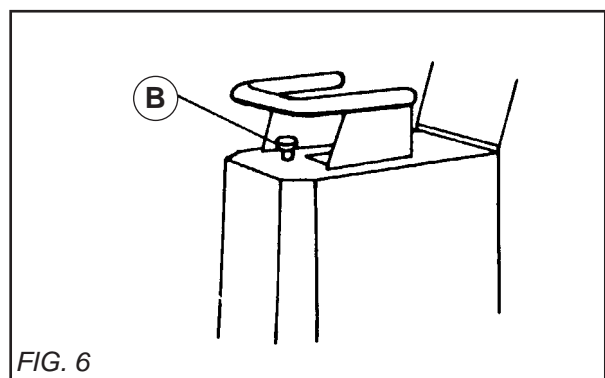

FIG. 6
- Pour water into the (22-litre) tank through the hole. The water flow is regulated by the knurled knob (B) (SEE FIG. 6).